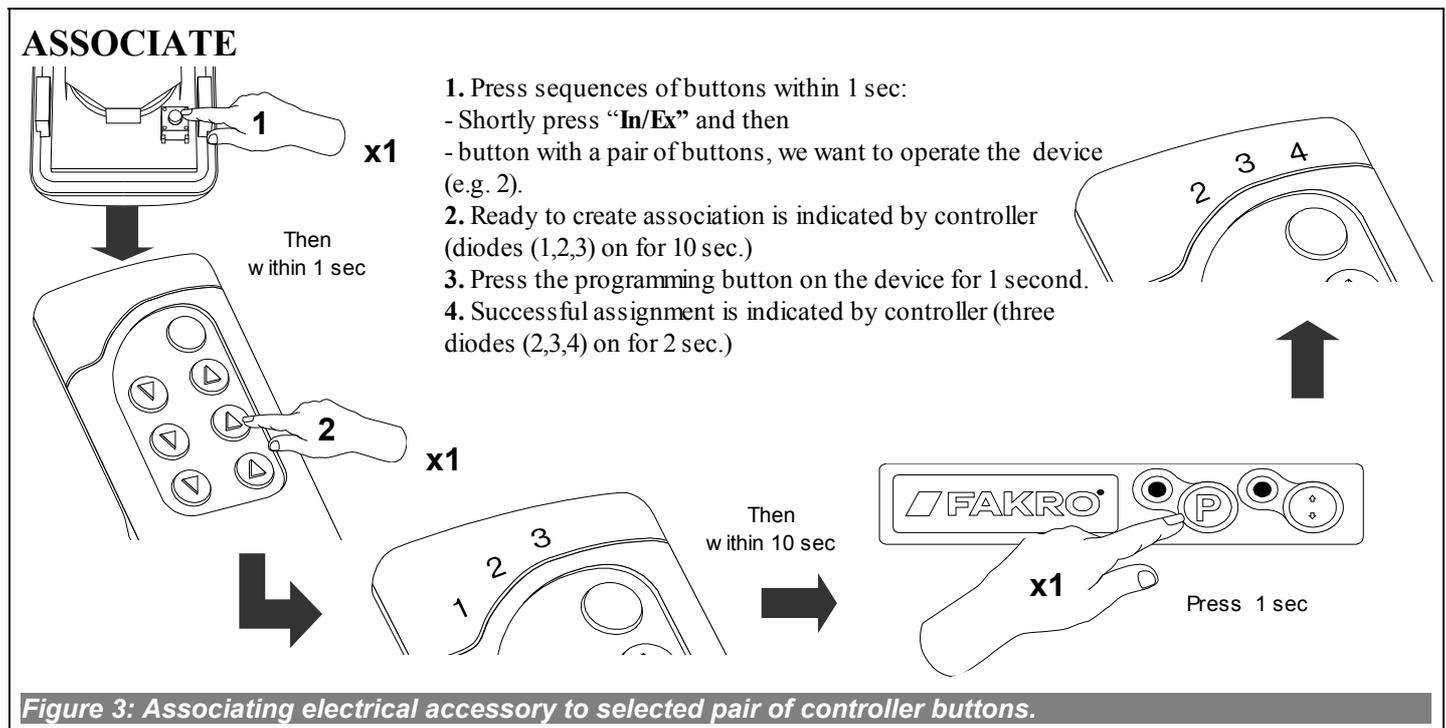

Figure 3: Associating electrical accessory to selected pair of controller buttons.
2. Link the device with the selected pair of buttons on the Controller (using “ASSOCIATE” function). A model procedure is presented in *Figure 3*. For some controllers, it is possible to both Include and Associate at one time.